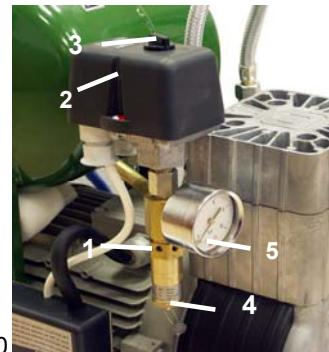
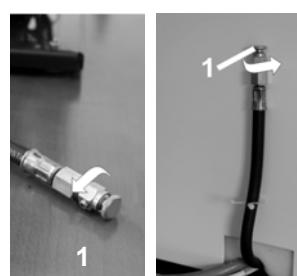

Fig.10
Fig.11
(Fig.10)
**14.1. Condensation drain valve****Compressors (Fig.11, Fig.12)**
If the compressor will not be used for a prolonged time period, drain any condensate from the air tank. Then turn on the compressor for 10 minutes, keeping the drain valve open (1) (Fig.11, Fig.12). Switch off the compressor by switch (3) at pressure switch (2) (Fig.10), close the drain valve and disconnect the appliance from the mains.
- Release air pressure in the pressure tank by opening the drain valve (1) (Fig.11, Fig.12).